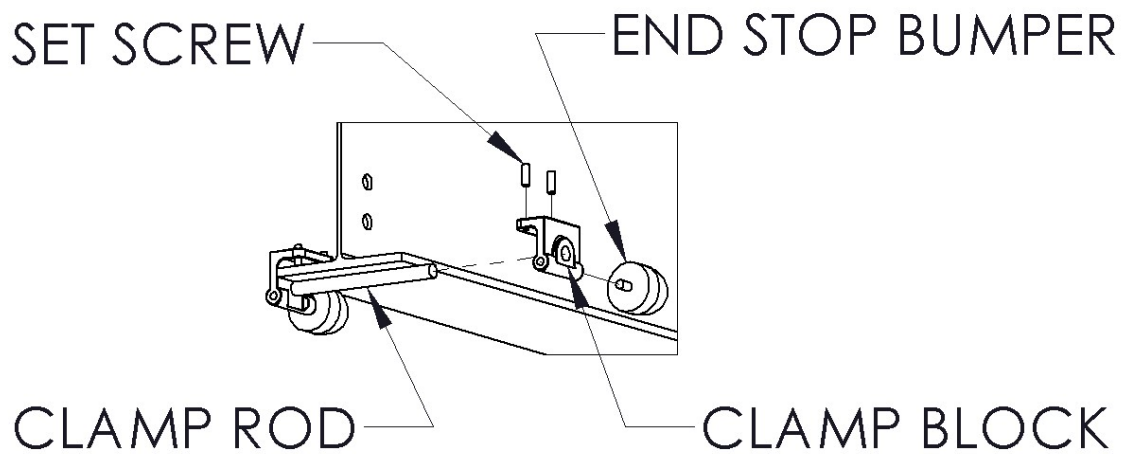

Figure 4a: Standard End Stop
8. Install end stops on all four ends of the runway (see figures 4a & 4b).